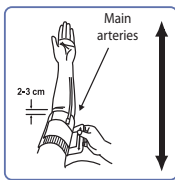

Fig. 3
3. Put your arm through the cuff loop. The bottom of the cuff should be approximately 2-3 cm above elbow. The tube should lie over the brachial artery on the inside of the arm (Fig. 3).